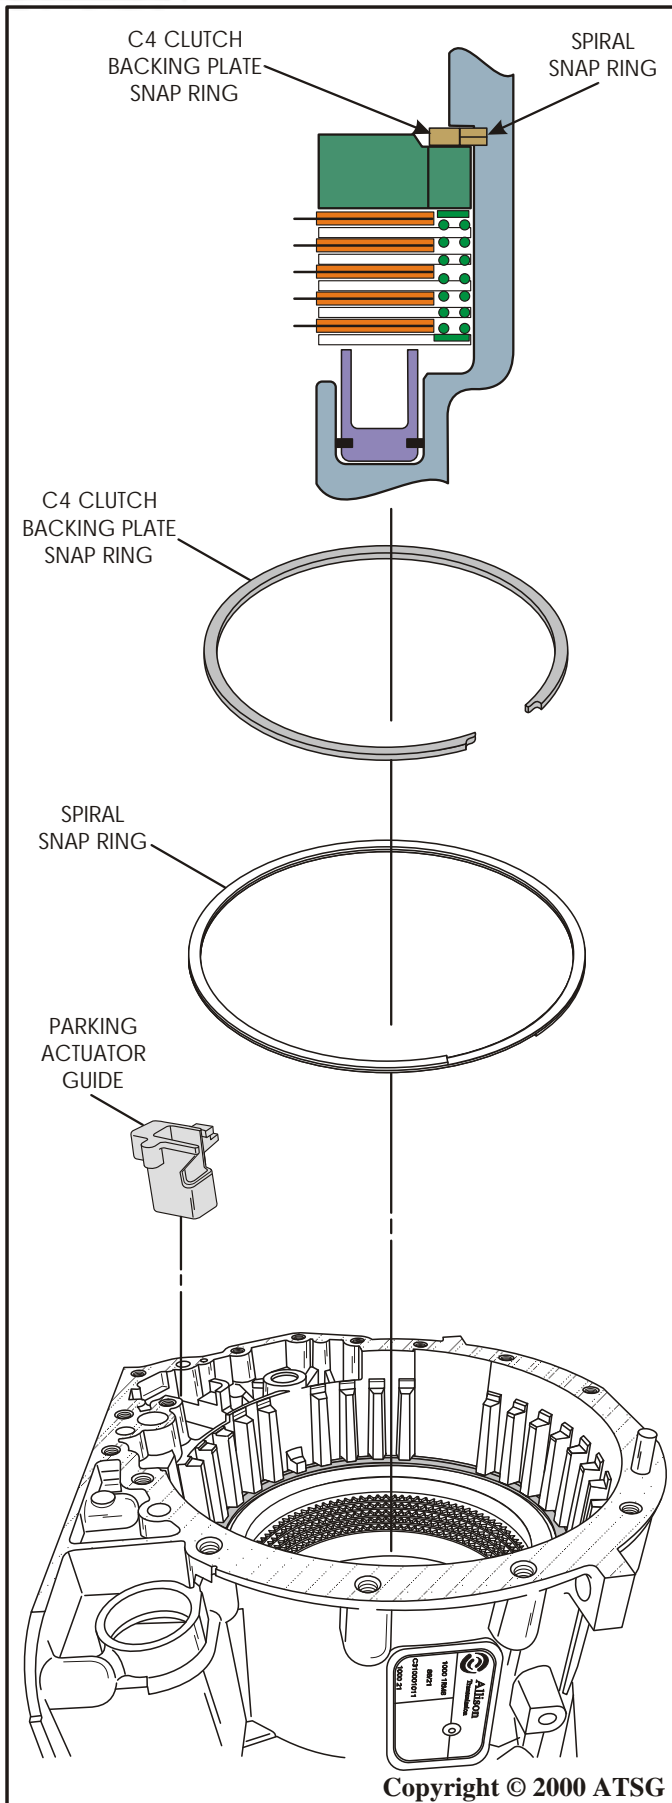

Figure 66
47. Remove the parking actuator guide from case as shown in Figure 66.
48. Remove the C4 clutch backing plate snap ring from the groove in case (See Figure 66).
49. From the *same* groove in the case, remove the spiral snap ring from case (See Figure 66).
Note: Refer to the cut-away in Figure 66 to see how these snap rings are in groove.